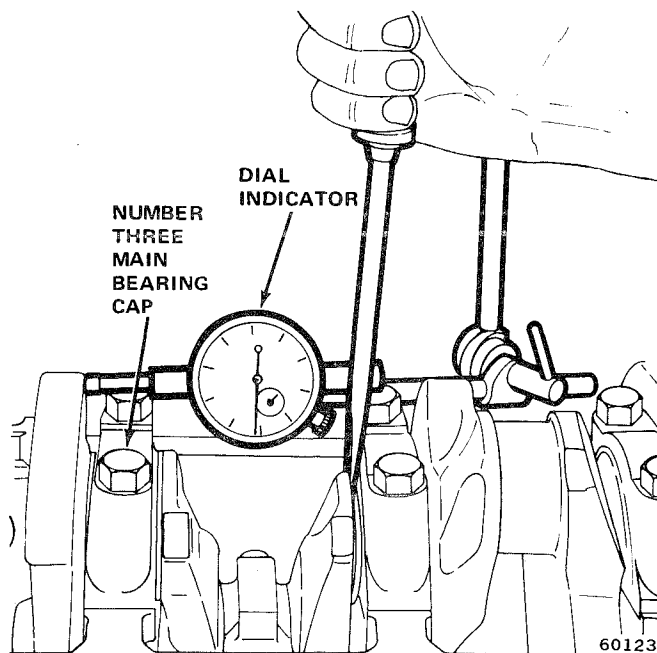

Fig. 1B-51 Measuring Crankshaft End Play
- (1) Attach dial indicator to cylinder block adjacent to No. 3 main bearing (fig. 1B-51).
- (2) Pry shaft forward with flat-bladed screwdriver, set dial indicator, push rod on face of crankshaft counterweight and set to zero.
- (3) Pry shaft fore and aft. Read dial indicator. The end play is the difference between the high and low readings. The correct crankshaft end play is 0.0015 to 0.0065 inch (0.002 to 0.0025 desired).